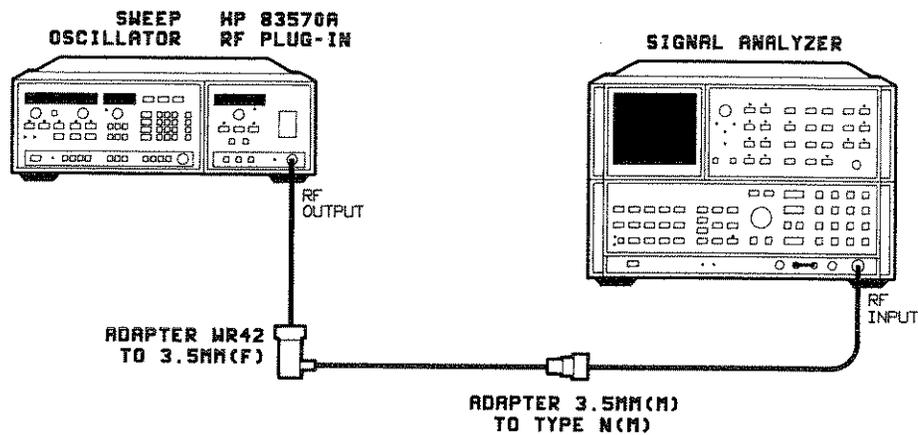

Figure 4-10. AM On/Off Ratio and Square-Wave Symmetry Test Setup
1. Connect the equipment as shown in Figure 4-10. Turn all instruments on and allow them to warm-up for 30 minutes.